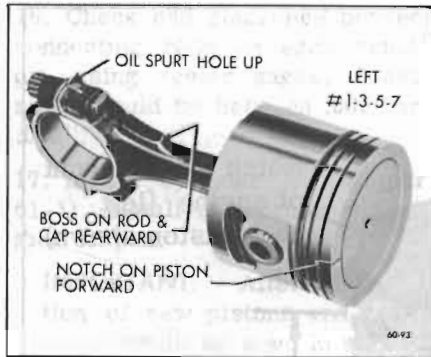

Figure 60-234—Left Bank Piston and Rod Assembly
is to be installed in the left bank, the assembly must be made as shown in Figure 60-234.
15. Install all other piston and rod assemblies in same manner. When piston and rod assemblies are properly installed, the oil spurt holes in the connecting rods will be "up" toward the camshaft, the rib on the edge of the rod cap will be on the same side as the conical boss on the connecting rod web, and these marks, (rib and boss) will be toward the other connecting rod on the same crankpin. See Figure 60-234 and 60-235.